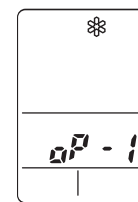

Fig. 59b
- After a few seconds, “⌘” appears and “oP-1” blinks in the remote controller display area. (Fig. 59b)